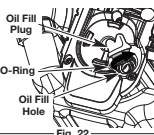

Fig. 22
WARNING: Avoid accidental starting. Make sure you are in the starting position when pulling the starter rope (Fig. 22). To avoid serious injury, the operator and unit must be in a stable position while starting. Make sure that any Add-On item is installed correctly and secure before starting the unit.
6. If the oil level is not touching the inner most thread on the oil fill hole, add a small amount of oil to the oil fill hole and recheck (Fig. 22). Repeat this procedure until the oil level reaches the inner most thread on the oil fill hole.
NOTE: Make sure the O-ring is in place on the oil fill plug when checking and changing the oil (Fig. 22).